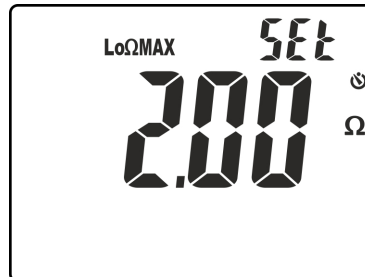

Fig. 26: Setting the limit threshold for continuity test
4. Press keys **▼/☼** or **▲/ZERO** to select the value in the range: **0.05 $\Omega$  ÷ 9.99 $\Omega$**  (see Fig. 26).
4. Press keys **▼/☼** or **▲/ZERO** to select the value in the range: **0.05Ω ÷ 9.99Ω** (see Fig. 26).